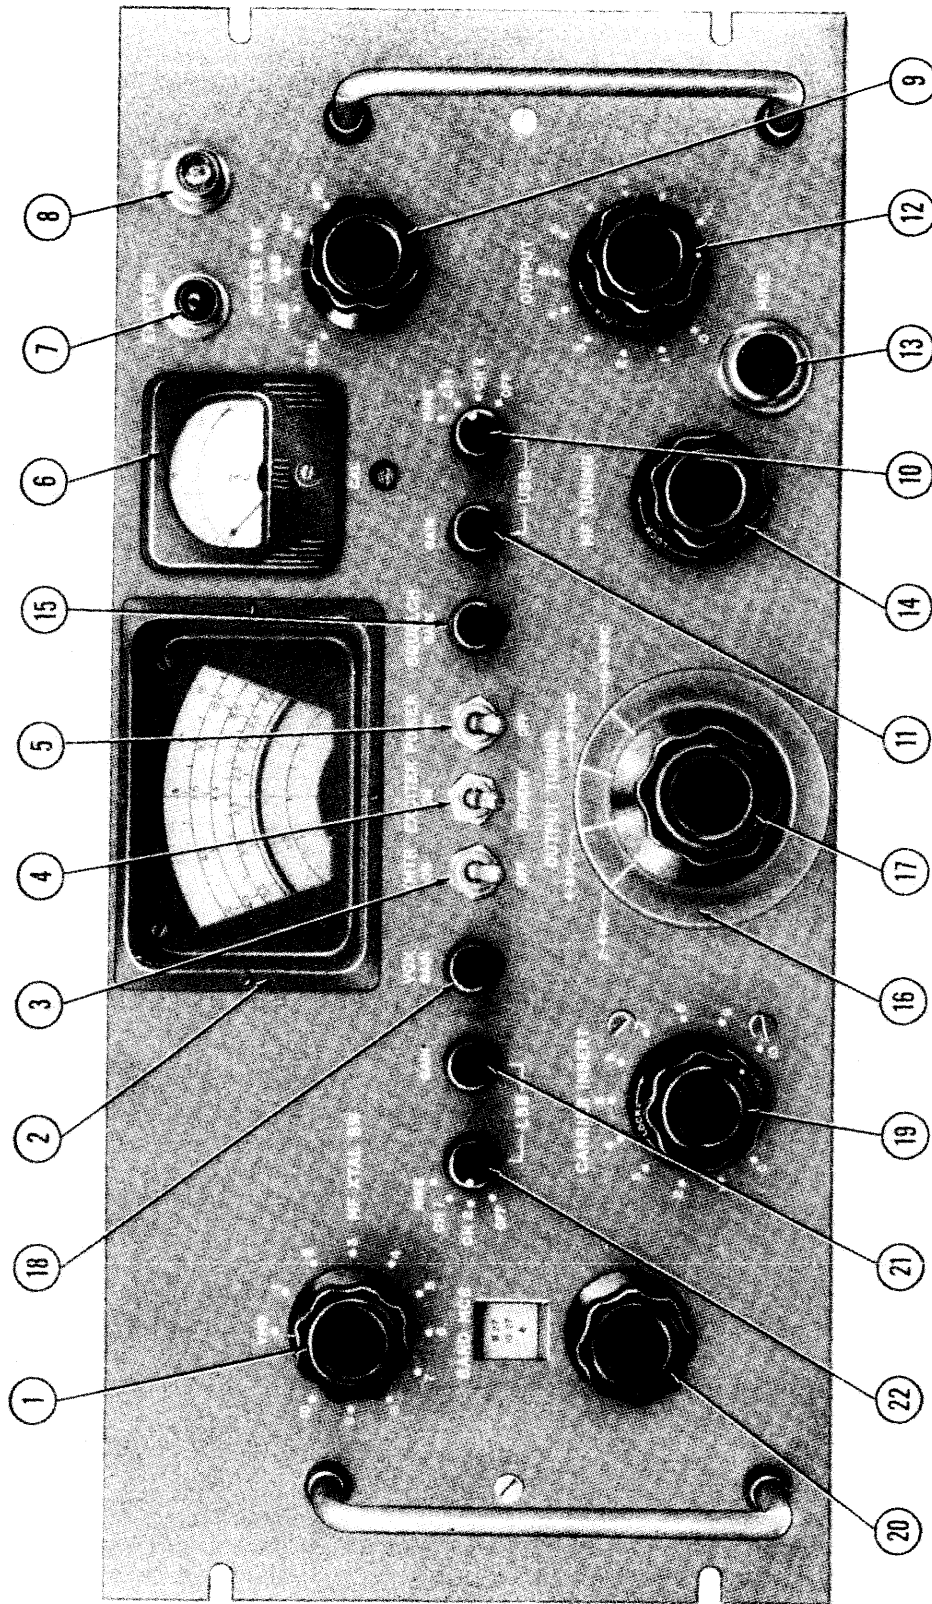

Figure 3-1. Operating Controls
- b. Set the CARRIER INSERT potentiometer (ref. 19, figure 3-1) to position 10.
- c. Set the MF XTAL SW (ref. 1, figure 3-1) to the VMO position.
- a. POWER ON-OFF S103 is a toggle-switch control designated 5 on figure 3-1. ON, applies line voltage to power supply. OFF, turns SBE off entirely.
- b. LSB S102 is a switch control designated 22 on figure 3-1. Selects audio input source for lower sideband channel.
- c. LSB GAIN R169 is a potentiometer control designated 21 on figure 3-1. Adjusts level of LSB audio input.
- d. USB S101 is a switch control designated 10 on figure 3-1. Selects audio input source for upper sideband channel.
- e. USB GAIN R168 is a potentiometer control designated 11 on figure 3-1. Adjusts level of USB audio input.
- f. OUTPUT TUNING KNOB S106 is part of switch control designated 17 on figure 3-1. Selects output frequency band. The associated outer disc designated 16 tunes the RF output circuits that are a part of the 2- to 32-mc HF section.
g. MIKE J101 is a connector control designated 13 on figure 3-1. Input jack to audio pre-amplifier for all high impedance microphones.
Front panel control R106 (CARRIER INSERT), designated 19 on figure 3-1, selects any degree of carrier insertion from -55 db to full output of the SBE. It does so by taking the required amount of 17-kc output from 17-kc oscillator Z105.
Sideband energy centering around 270 kc is coupled by T107 to pins 2 and 7 of push-pull amplifier V113. A 2- to 4-mc injection is obtained from V115 which, in turn, is fed by the crystal oscillator section or the VMO input from J104. This injection frequency is 270 kc higher than the lower sideband output of the medium frequency modulator. The mid frequency dial (the single-scale dial of control designated 2 on figure 3-1) is calibrated to read directly in terms of the MF injection frequency; however, its associated circuit is actually tuned 270 kc below it by variable capacitors C167A and C167B (knob control 14 on figure 3-1). The grids of tubes V113A and V113B are supplied with 270-kc sideband voltages as well as MF injection voltages, and the lower sideband is passed by the tuned circuits of the modulator. The balancing out of the 2- to 4-mc injection supply is accomplished by MF balance control R130 which varies the gain of the A and B sections of V113; thus, the 2- to 4-mc injection cancels in the primary of T109. The medium frequency modulator serves as the final modulation stage when output frequencies of less than 4.27 mc are required from the SBE. For output frequencies greater than 4.27 mc, its output is further raised in frequency by the high frequency modulator.
Selection of the proper crystal for use with MF XTAL SW S107 (control designated 1 on figure 3-1) is as follows: Suppose the desired RF output of the SBE is 10.235 mc. BAND MCS switch S108 (control designated 20 on figure 3-1; a part of the 2- to 32-mc HF section, refer to paragraph 4-5) shows a multiplying factor of 6 on its dial for an 8.27- to 10.27-mc range. The crystal to be selected by the position of MF XTAL SW S107 should have a frequency of $2 \times 6 + 0.270 - 10.235$ mc or 2.035 mc. The crystal sockets associated with MF XTAL SW S107 may hold up to 10 crystals, each corresponding to a particular RF output of the SBE.
a. MF XTAL SW S107 is a switch control designated 1 on figure 3-1. Selects either external oscillator (VMO) or proper crystal for mid frequency oscillator.
b. MF TUNING C167A and C167B is a variable capacitor control designated 14 on figure 3-1. Tunes MF (2- to 4-mc) modulator and is associated with the single-scale dial of control designated 2 in figure 3-1.